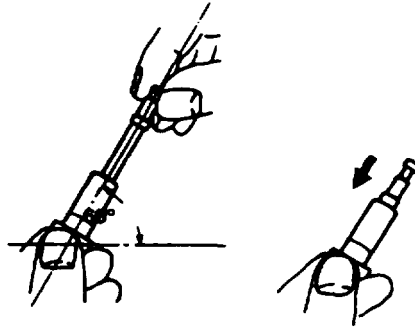

FIGURE 3-18. Checking Plunger and Barrel Movement
- b. Ensure that plunger (24) slides smoothly into barrel (37) under its own weight when the assembly is inclined approximately 60 degrees. Change plunger position by rotating it and check plunger movement several times as above. If plunger does not slide smoothly, replace plunger and barrel as an assembly, refer to FIGURE 3-18.